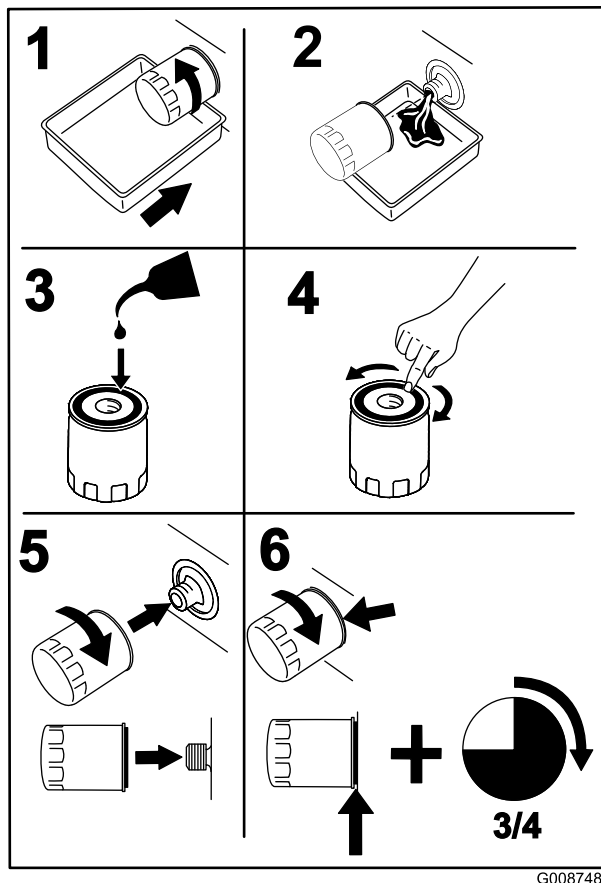

Figure 45
3. Change the engine-oil filter (Figure 45).